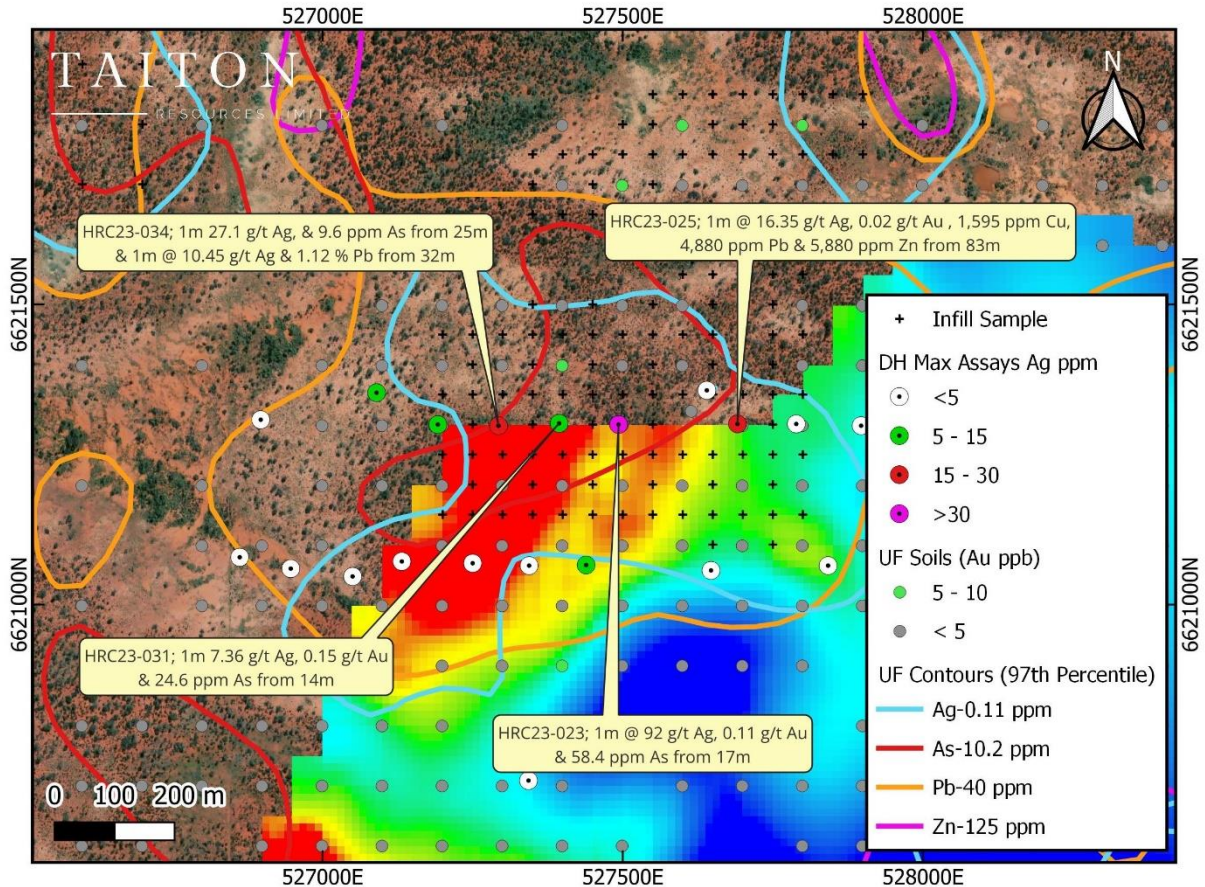

Figure 4 Sample location points with UF element contours underlain by IP chargeable response 62m slice at Merino prospect.
Taiton completed an infill UF soil sampling program at the **Merino prospect** consisting of 126 samples (exc. QAQC samples) on a 50m-by-50m grid to follow up on multi-element soil⁴ and RC drilling results³ that indicate potential for Ag-Au epithermal style mineralisation. The RC drilling program intercepted Ag-Au mineralisation (up to 92 g/t Ag and 0.15 g/t Au) within broad multi-element anomalism coincident to a chargeable zone identified in the northern extent of an Induced Polarisation (IP) survey⁵ completed by Taiton in early 2023 as shown in Figure 4.